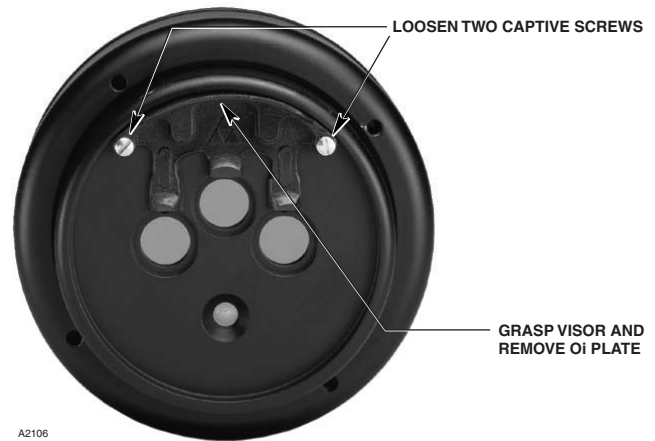

Figure 17—Oi Plate Removal
1. Loosen the two captive screws, then grasp the **oi** plate by the visor and remove it from the detector. See Figure 17.